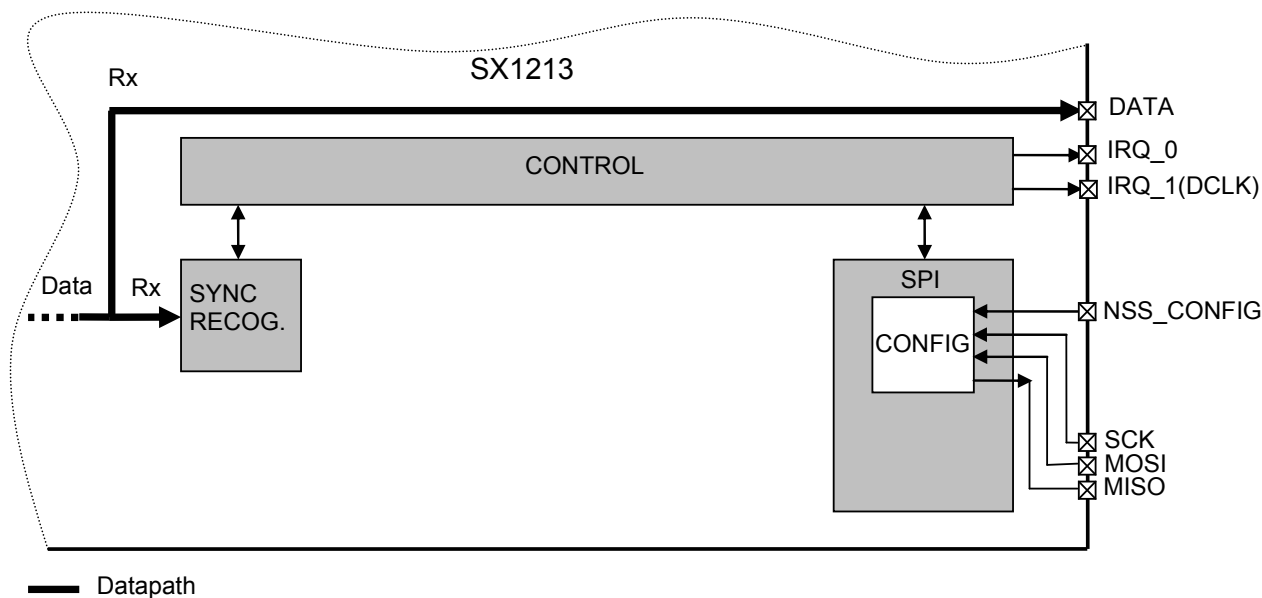

Figure 27: Continuous Mode Conceptual View
As illustrated in Figure 27, in Continuous mode the NRZ data from the demodulator is directly accessed by the uC on the DATA pin (20). The SPI Data, FIFO and packet handler are thus inactive.